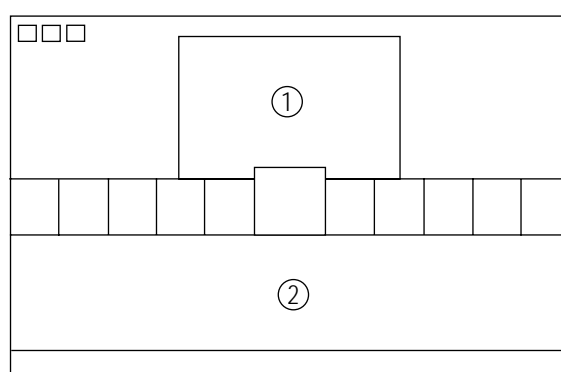

Fig. 4-4
1. Set SBT to 1.3 ± 0.2 fL in the Factory Service Mode with using CA100. See Fig. 4-4 ②.
1. Set SCT to 55 FL (20". 21"), 65 FL(14".16") in the Factory Service Mode with using CA100. See Fig. 4-4 ①.